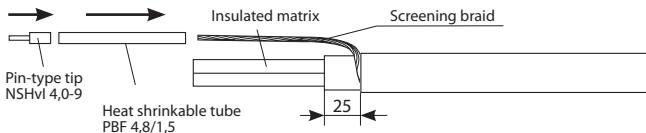

Figure 3
5.1.3. Unbraid the braid, twist it into a braid tail, put the heat shrinkable tube PBF 4,8/1,5 on it. Then put on the end of the braid tail the pin tip and crimp it by the hand crimping tool. Cut off and remove the insulation from the matrix leaving 25 mm length (see Figure 3).